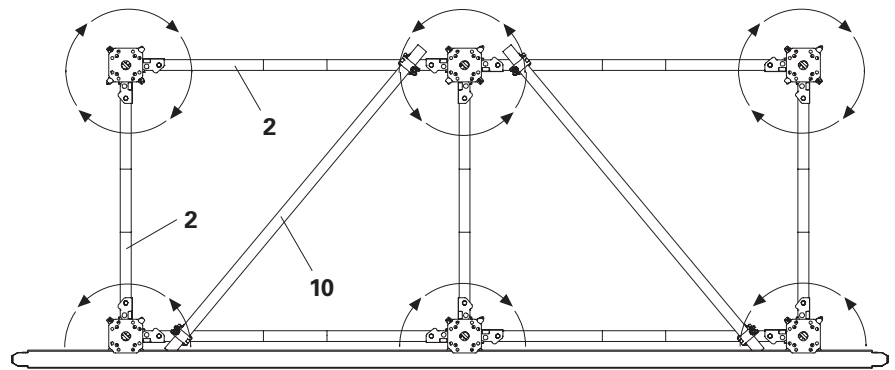

Fig. A3.06
- The Frames MP MRK (2) must be installed in a consistent "windmill" design.
- Using Scaff. Tubes 48.3x3.2 mm (10) to reinforce the bracing diagonally at half the tower height. (Fig. A3.06)